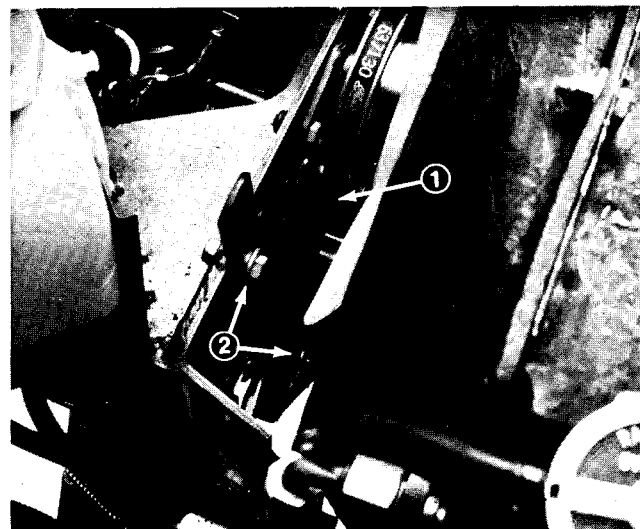

Figure 24
2. To check and adjust the belt tension, loosen the two bolts securing the idler pulley lever to the bracket (Fig. 24). Put 10 lbs. (4.5 kg) of force on top of the idler pulley lever and tighten the upper bolt. Tighten the lower bolt.